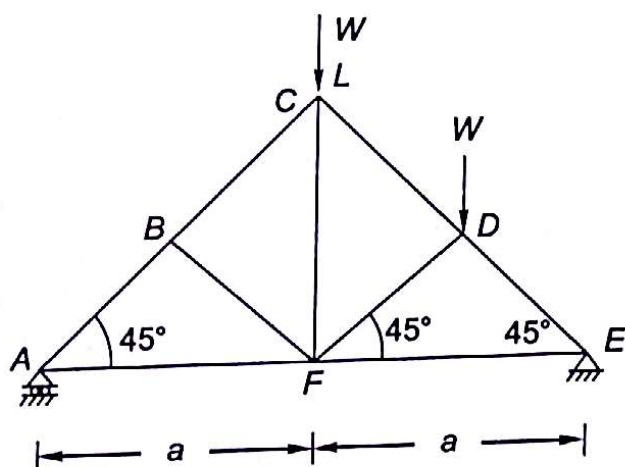

Fig. 4.31
- 4.2 A truss $ABCDEF$ carries vertical loads W each at joints C and D . What is the magnitude and nature of force in member AB (Fig. 4.31)?